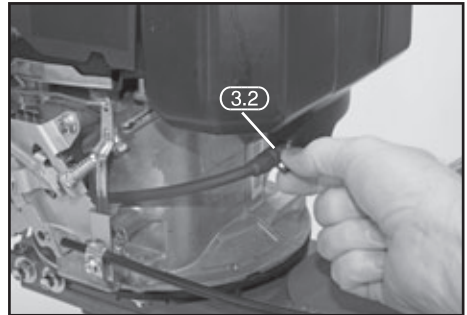

FIG.24
12.6 TRANSPORTING AND STORAGE - FIG. 24